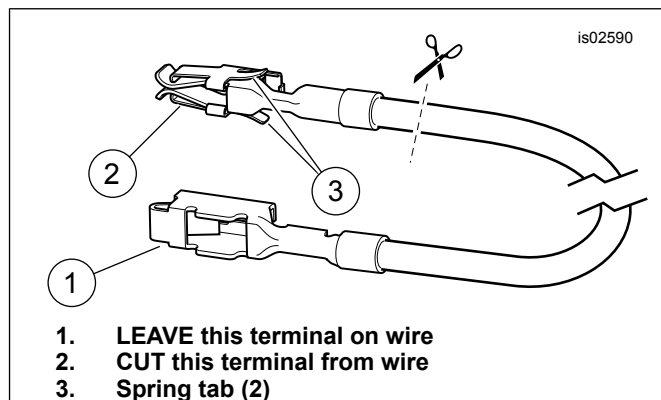

Figure 6. Fuse Block Adapter Wire
4. Get the orange/white fuse block adapter wire (10) from the kit. Note the terminal on each end (see Figure 6. Only the terminal **WITHOUT the spring tabs** fits into the fuse cavity. Carefully cut the terminal **WITH** spring tabs from the wire and discard it.